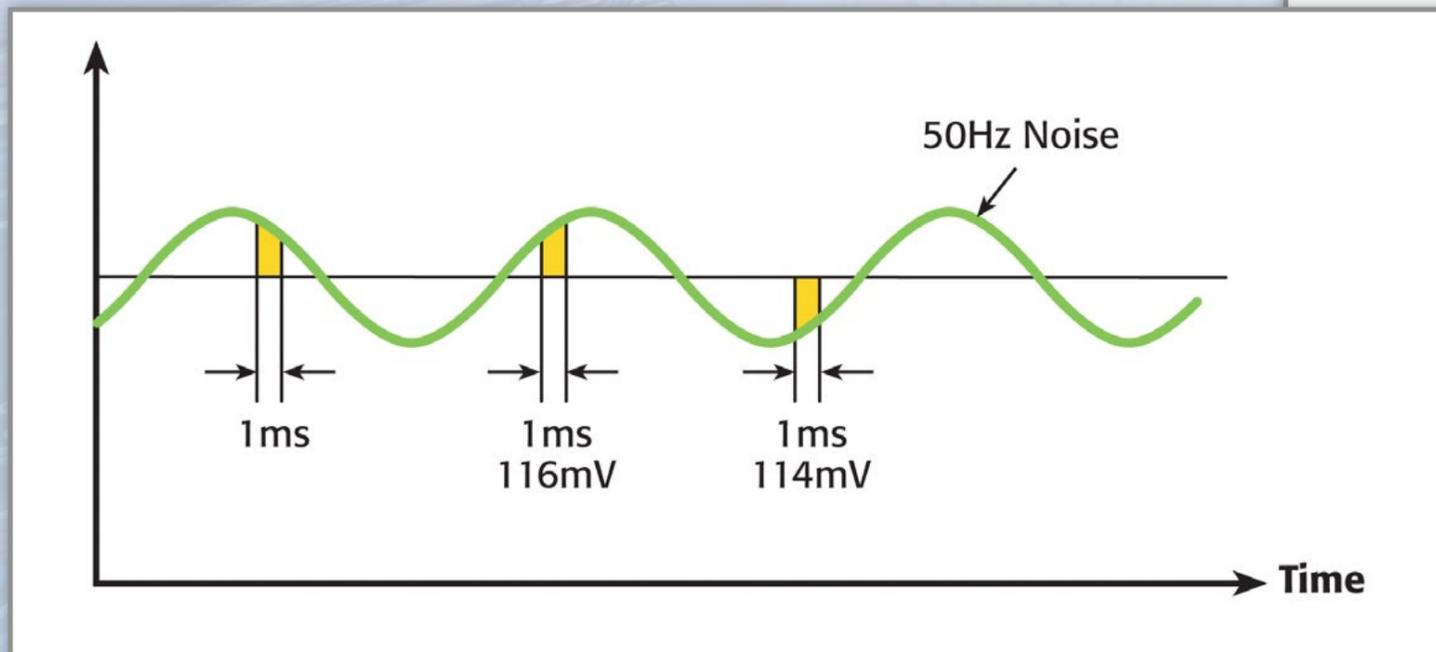

Figure 5
- External interference.** External interference introduces both AC and DC errors into signal measurements. The most common form of external noise “pick-up” is 50Hz or 60Hz line pick-up, depending on where in the world the measurements are being made. Picking up millivolts of noise is not uncommon, especially when measurements are made near fluorescent lights. The signal components of noise superimposed on a DC signal being measured may result in highly inaccurate and fluctuating measurements. As shown in **Figure 5**, the measured value will very much depend on where the measurement is carried out in relation to the sine wave. Many modern instruments allow users to set the integration period in relation to the number of power line cycles. In other words, a setting of 1 NPLC will result in the measurement being integrated for 20 milliseconds (if 50Hz) and 16.67milliseconds (if 60Hz), which will eliminate any mains generated noise. The performance improvements this feature make possible are often dramatic.